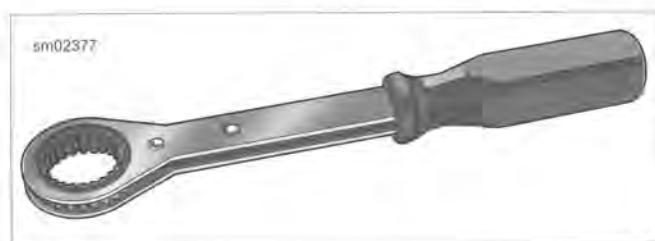

Figure 3-16. Crankshaft Rotating Wrench
- c. See Figure 3-16. **With engine mounted in engine stand:** Install CRANKSHAFT ROTATING WRENCH (Part No. HD-48283) on sprocket shaft and rotate counterclockwise until the base circle is found.